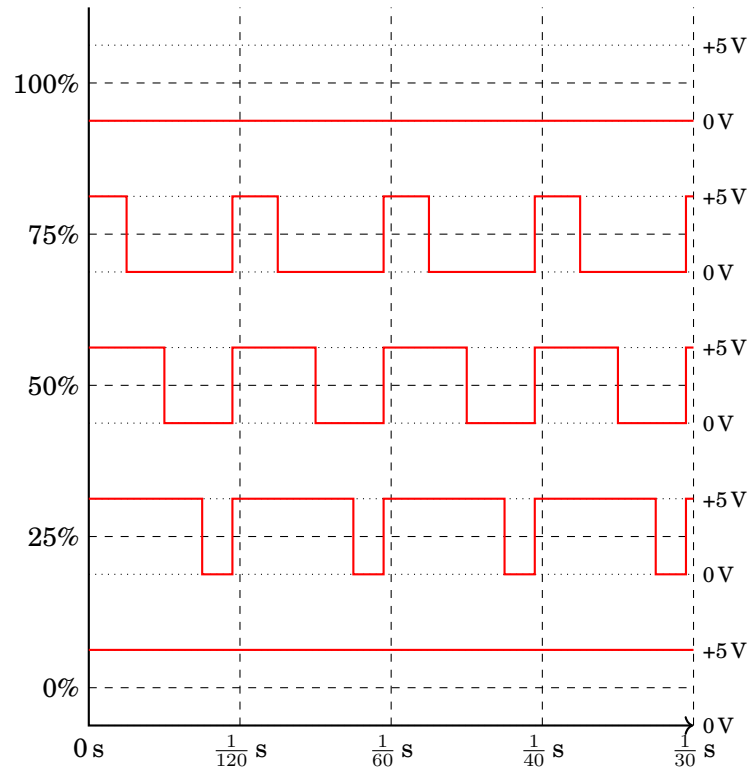

Figure A.1: Duty Cycles of Channel Logic Drive Outputs
For experimental use, TTL-level outputs for the first four channels are available on J18. These are active-low outputs, where a “low” (0) state indicates that the output should be on, and a “high” (1) state means that the output should be off. Note that if an output is at a dimmer level other than fully on or fully off, the signal will pulse with a duty cycle corresponding to the dimmer level as illustrated in Figure A.1.